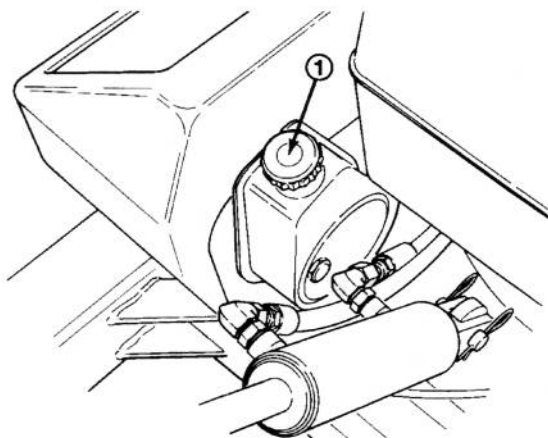

Figure 2
1. Remove the cap from the fuel tank (Fig. 2) and fill the 1.5 gallon tank to within 1 inch from the top with unleaded gasoline. Install the fuel tank cap tightly.
2. Remove the dipstick cap (Fig. 2) from the filler neck and wipe it with a clean rag. Insert the dipstick cap into the filler neck; then remove it and check the level of fluid. If the level is not within 1.25 cm ($\frac{1}{2}$ inch) from the full mark on the dipstick, add SAE 10W-30 engine oil to raise the level to full mark. Do not overfill.